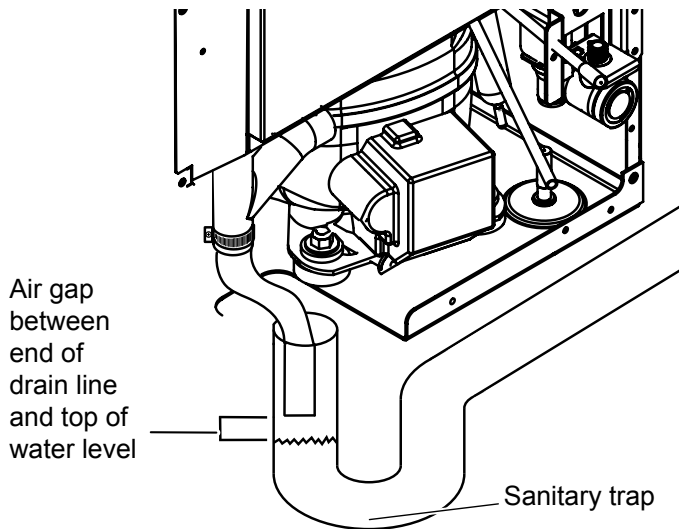

Figure 11: Example of an open drain.
- b. Your drain line is plumbed into an open drain (Figure 11).